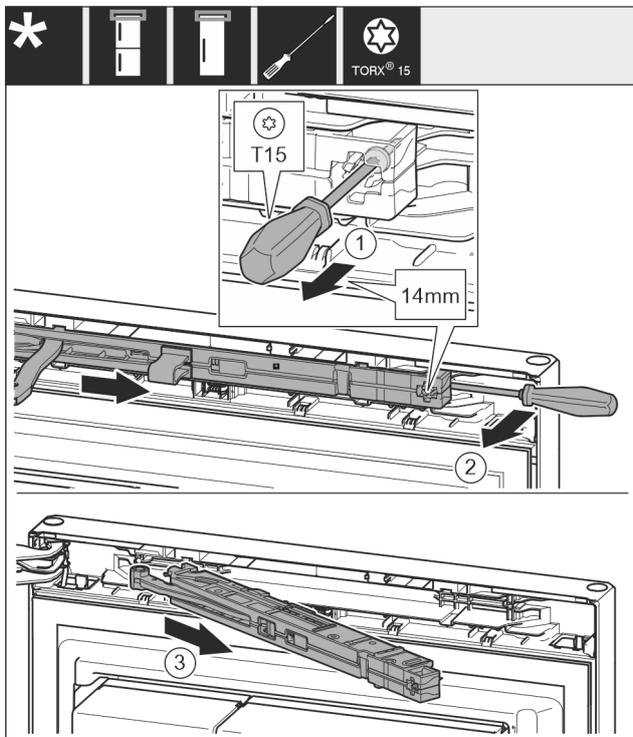

Fig. 10
- ▶ Undo the soft stop unit screw with a T15 screwdriver approx. 14 mm. *Fig. 10 (1)*
- ▶ Insert a screwdriver behind the soft stop mechanism on the handle side and rotate it forwards. *Fig. 10 (2)*
- ▶ Pull out the soft stop unit. *Fig. 10 (3)*